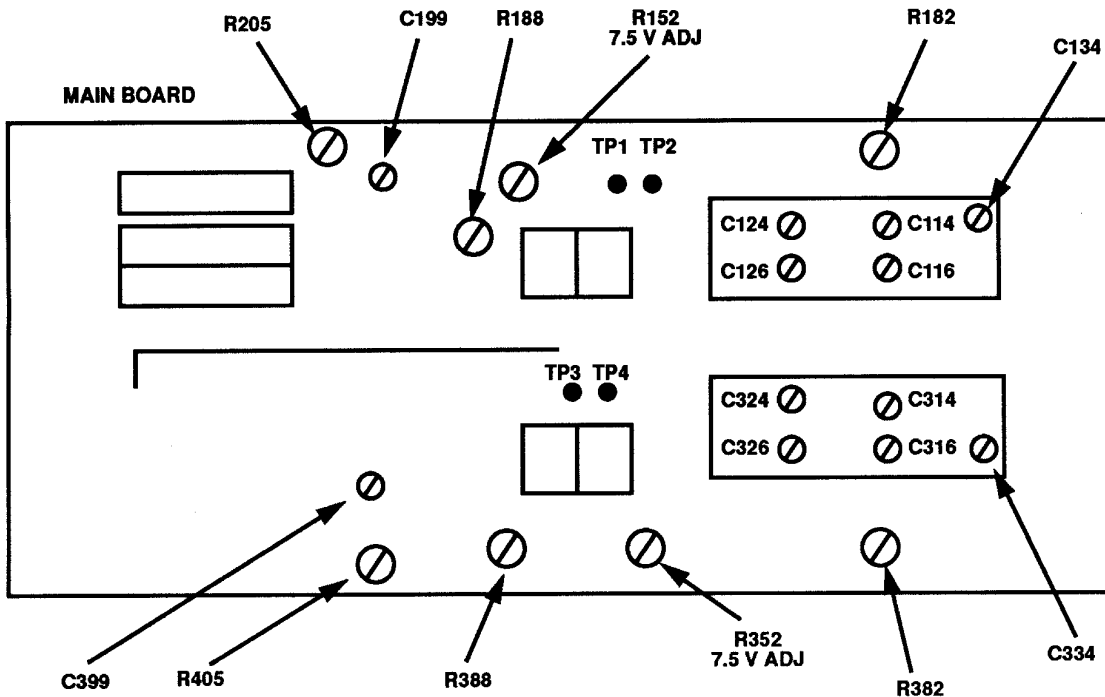

Figure 4. Dual trace amplifier, Tektronix, Type 5A48 - left-side view.
VOLTS/DIV switch settings	Adjustments (fig. 4)
(1) Rotate oscilloscope calibrator knob located below **EDIT FIELD** pushbutton for 0.0% **err** display indication.
(2) Adjust R205 (fig. 4) for 5 divisions of vertical deflection on oscilloscope (R).
(3) Rotate oscilloscope calibrator knob located below **EDIT FIELD** pushbutton for 0.0% **err** display indication.
(4) Adjust R188 (fig. 4) for 5 divisions of vertical deflection on oscilloscope (R).
- (5) Rotate oscilloscope calibrator knob located below **EDIT FIELD** pushbutton for 0.0% **err** display indication.
- (6) Adjust R405 (fig. 4) for 5 divisions of vertical deflection on oscilloscope (R).
- (7) Rotate oscilloscope calibrator knob located below **EDIT FIELD** pushbutton for 0.0% **err** display indication.
- (8) Adjust R388 (fig. 4) for 5 divisions of vertical deflection on oscilloscope (R).
(5) Adjust **POSITION** and **MAIN TRIG LEVEL** controls as necessary to view leading edge of waveform near the center of display.
(6) Rotate oscilloscope calibrator knob located below **EDIT FIELD** pushbutton for 5 divisions of vertical deflection on oscilloscope.
(7) If aberrations are not within $\pm 4\%$, adjust C199 (C399 for **CH 2**) (fig. 4) for best square corner on waveform (R).
(8) Measure risetime using standard risetime technique. Risetime will be 5.8 ns or less for SN B068140 and below (7 ns or less for SN B068140 and above).
(9) Set oscilloscope calibrator **EDGE** output to 50 mV and **CH 1 VOLTS/ DIV** switch to **1 m**.
(10) Adjust **POSITION** and **MAIN TRIG LEVEL** controls as necessary to view leading edge of waveform near the center of display.
(11) On oscilloscope calibrator rotate knob located below **EDIT FIELD** pushbutton for 5 divisions of vertical deflection on oscilloscope.
(12) Measure risetime using standard risetime technique. Risetime will be 14 ns or less.
(13) Disconnect oscilloscope calibrator output from **CH 1** and connect to **CH 2**.
(14) Press **MODE CH 2** and **TRIGGER CH 2** pushbuttons.